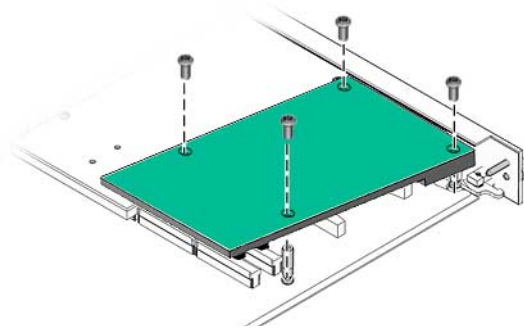

FIGURE 2-8 Securing the PMC Screws
10. Use a screwdriver to secure the four screws that attach the PMC card to the Netra CP3020 board on the component side of the board (FIGURE 2-8).